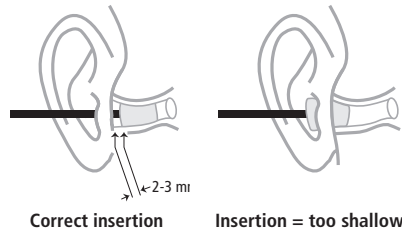

Figure 4
2. To obtain the noise exclusion and interaural attenuation, consult the ER-3C Calibration Manual. Insertion depth should be 14-15 mm into the ear canal. This depth is achieved when the outside edge of the foam eartip is 2-3 mm inside the entrance to the ear canal. (Figure 4)